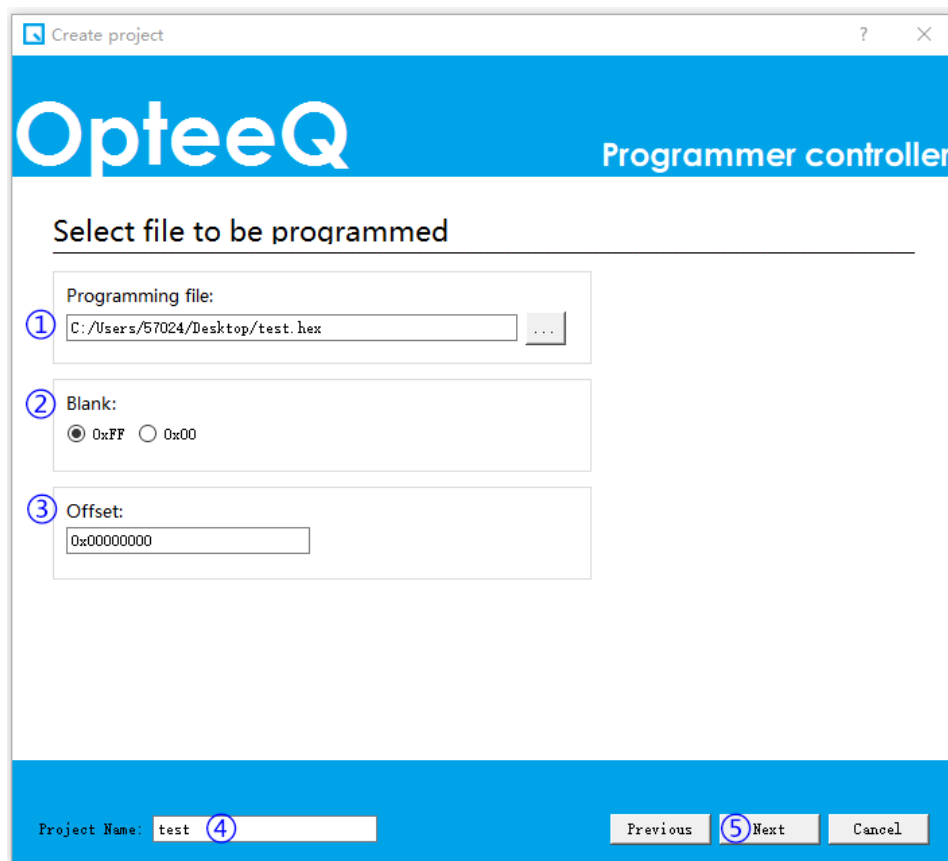

Figure 4.13: Step 3 - Project Creation Interface
3) Step 3: Select the programming file (as shown in Figure 4.13). Notes: The project creation interface varies among different chips.
It is needed to select the code file to be programmed into the target chip (as shown in Figure 4.13-①).
Then, please set the baseline value for programming (as shown in Figure 4.13-②).
Set the offset value (as shown in Figure 4.13-③).
It is needed to input the project name (as shown in Figure 4.13-④) after settings above.
Finally, click "Next" (as shown in Figure 4.13-⑤).
Notes: The blank value (Figure 4.13-②) and offset (Figure 4.13-③) value may be default values, or may be changed according to the user's needs.